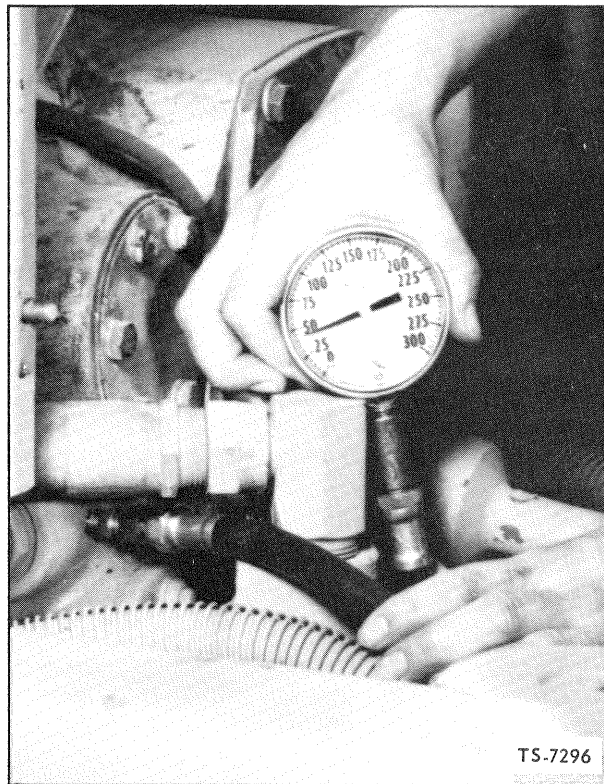

Fig. 19 Check Converter OUT Pressure
2. Install a gauge at the converter OUT pressure port as shown in Fig. 19.
readings are the same. See Fig. 19 for the position of the check point.